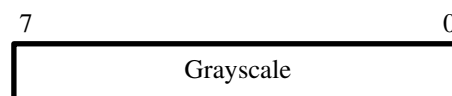

Figure 19. 8-bit Grayscale RGB Color Space.
- **8-Bit Grayscale** — This is a special case of the RGB color space where all three colors have the same intensity and therefore produces shades of gray. Figure 19 shows the format of the 8-bit Grayscale data. This format is equivalent to YCrCb 4:0:0 color space. This mode is defined as 8 bits per color and one color plane.